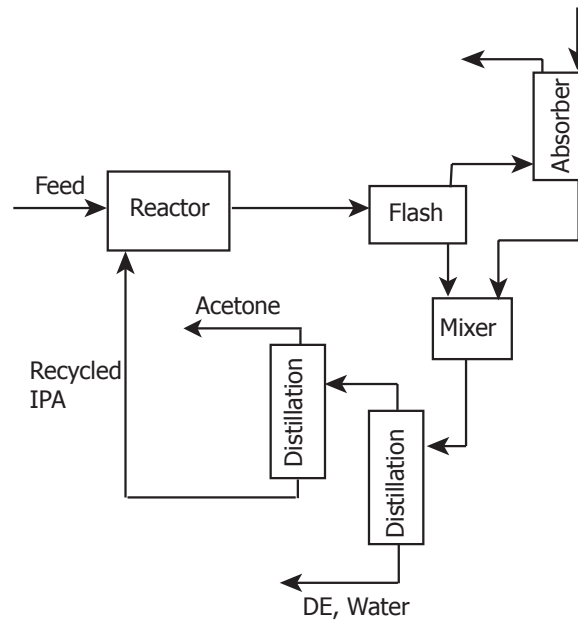

Figure 1: Block Flow Diagram
1. Utilize the Douglas Hierarchy to describe the rationale for using the BFD shown in Figure 1. Convert this BFD into a skeleton PFD.
This part of the project is done *without* using CHEMCAD. You are allowed to use a spread-sheet to do calculations. Please note that many details have been left out in Figure 1 and some of the information in the figure may not be *correct*.